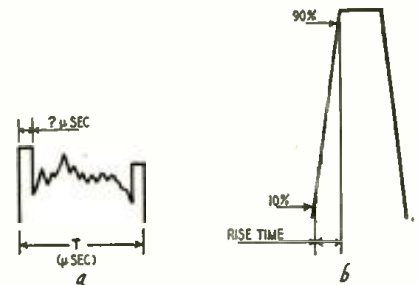

Fig. 3—Representative waveforms whose duration may have to be measured. (a) Complex wave. (b) Pulse-waveform display levels for measuring rise time.
*Calibrating the sweep in microseconds:* In studying complex waveforms, it is often desirable to know the duration of a pulse, or even of a complete complex cycle, as shown in Fig. 3-a. In some types of analysis, the rise time of a sharp pulse (Fig. 3-b) must be known accurately.